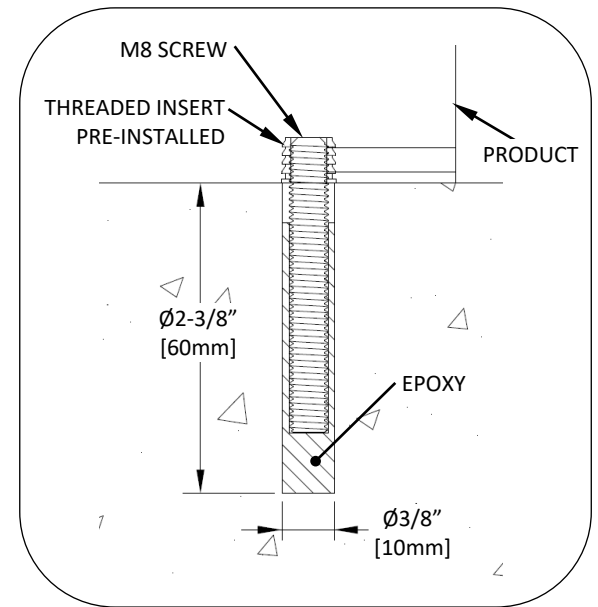

Fig. 3 – embedded anchor detail
1. Thread M8 set screws into threaded inserts in bottom of unit. See Fig. 3.